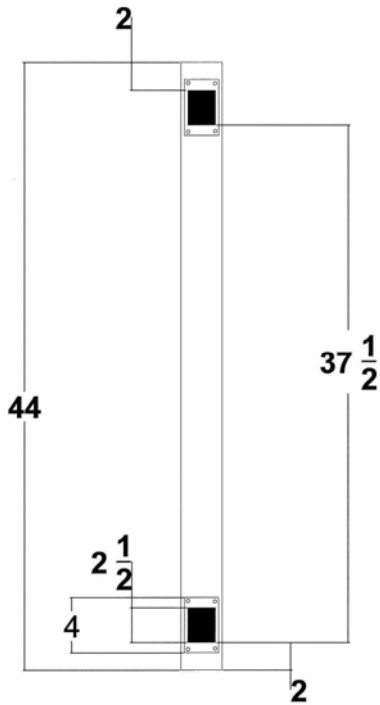

Figure 2: 42" Rail Base Bracket Installation
4. For the 42" Rail: Measure up 2 inches from the floor surface to locate the bottom rail base brackets. Secure the mounting brackets with screws through the vinyl post. Measure up an additional 37½ inches to locate and install the top rail base brackets (see Figure 2). Repeat for each post.